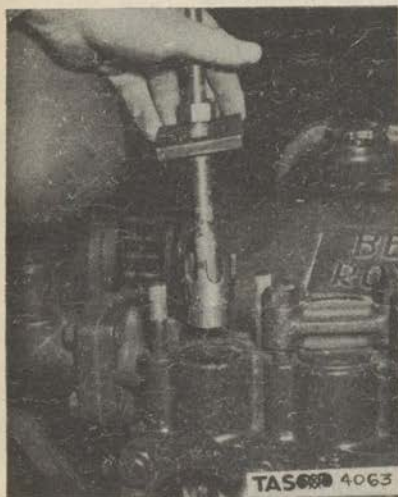

Figure 95. Lifting Tool and Seat
- (5) Lift the valve seat remover and seat. (Fig. 95)